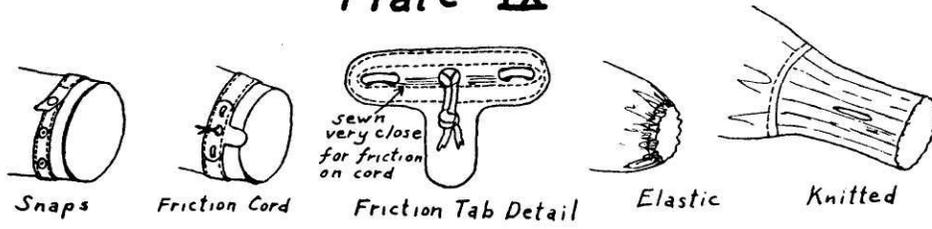

Fig. 1 Various Cuffs
7. Assemble the zipper door by sewing the zippers up the two side edges of one end part no. 2. Sew them so the zipper edge is even with the fabric edge for the first stitching and then roll the surplus fabric, or trim it off and top stitch with the second seam. See cross section detail Fig. 1. The ends of the zipper metal should be  $\frac{1}{2}$ " short of the edges of the original end part. Cut vent part no. 4 and hem the bottom edge around a piece of  $\frac{3}{4}$ " web. Stitch several times through the web. Sew this roughly over the peak of the zippers so the web bows out. The measured length of each side from zipper bottom to top corner of vent part should be 50" to 51".
A regular dressmaking shirt pattern in the proper size and of the general cut desired makes the best pattern for a wool shirt. A sport shirt pattern is more satisfactory than a dress shirt pattern. There should be fullness across the back to allow for plenty of arm freedom and the sleeves should be cut almost straight out from the body. Changes can be made easily in this pattern to allow for individual tastes in details. For instance, the shirt tails will probably be eliminated in favor of a square cut so the shirt can be worn outside the pants like a jacket on occasion. The slit at the cuff can be eliminated and an adjustable snap strap cuff added for versatility. (See Fig. 1, Plate IX.) Pockets can be installed to suit individual preferences and elbow patches for long wear can be added.